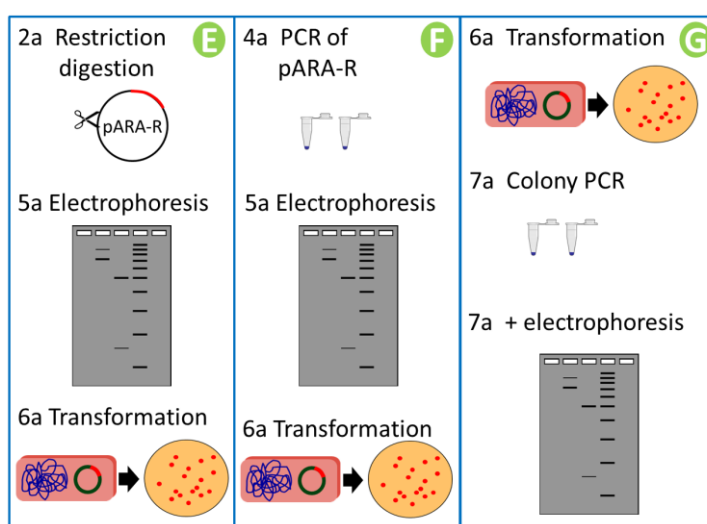

Figure I.2. A summary of the practical work undertaken in sequences E, F and G after the initial activities to familiarise students with the equipment.
Sequences E-G use an engineered (pre-made) recombinant plasmid. The identity of the recombinant plasmid can be confirmed using restriction digestion (E), or PCR (F), before *E. coli* cells are transformed and express the Red Fluorescent Protein, or after transformation using PCR (G). These possibilities are illustrated in figure I.2 and summarised in table form below.